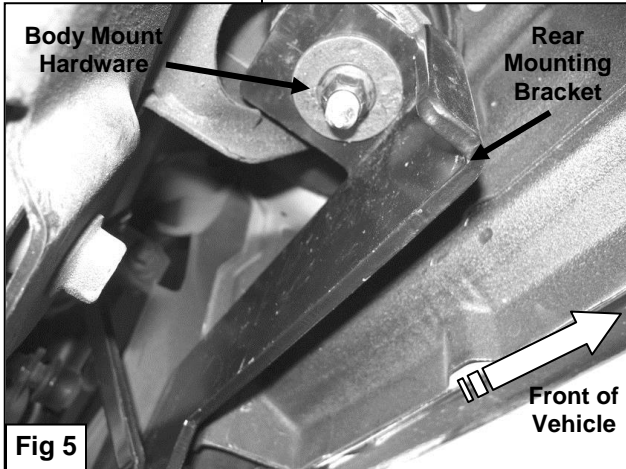

Fig 5
5. Loosely attach the driver side rear Mounting Bracket to body mount using the factory hardware (**Figure 5**).